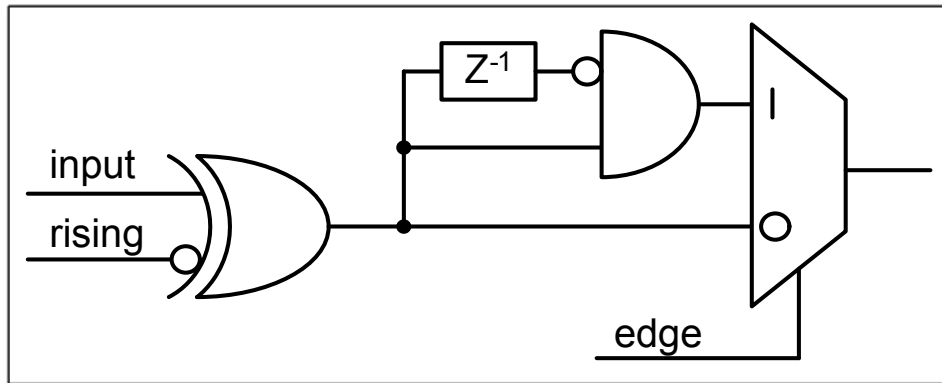

Figure 2.17: The digital inputs Trigger, GATE, BUS0, BUS1, BUS2 and BUS3 have simpler trigger units.
The configuration is set via the structure's `trigger [8]` and `trigger [9]` in the *configuration structure*. The input circuit is shown in Figure 2.17.
- The GATE input (Figure 2.17)
- The Trigger or TDC input (Figure 2.17)